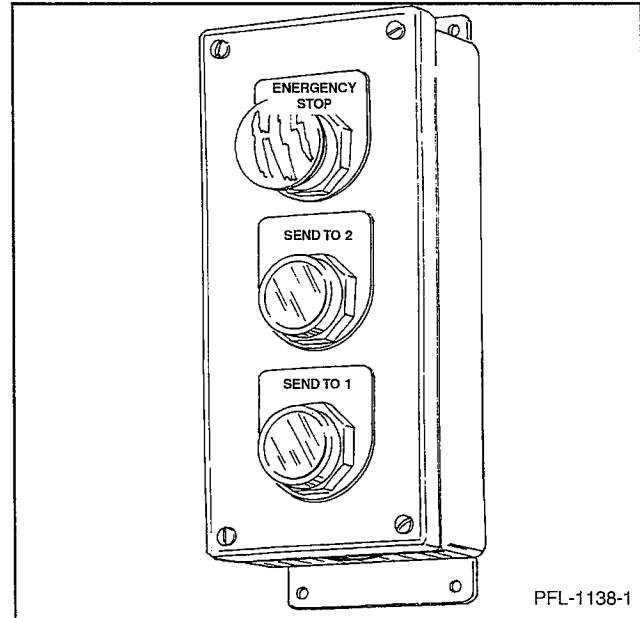

Figure 21
- If an emergency occurs when the carriage is moving, push the EMERGENCY STOP button. The button will keep the lift inoperative until the button is pulled back out. See Figure 21.